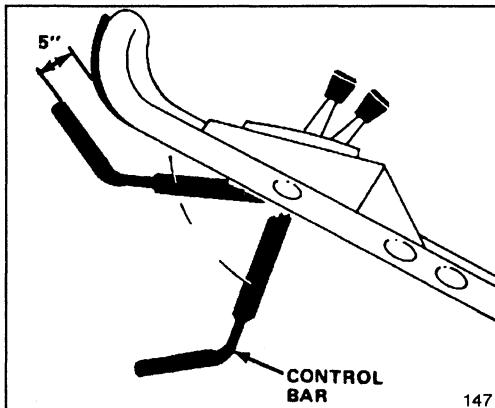

Figure 11
2. Push the control bar down to the lowest position (Fig. 11). This "lashes" the mechanism prior to engaging the blade.
6. Push the control bar down to its lowest position, latching the mechanism (Fig. 11).
(about 5" below the handle) (Fig. 11). This indicates that the mower blade is engaged and has begun to rotate.